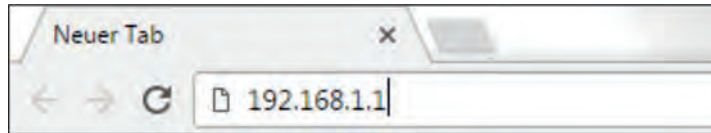
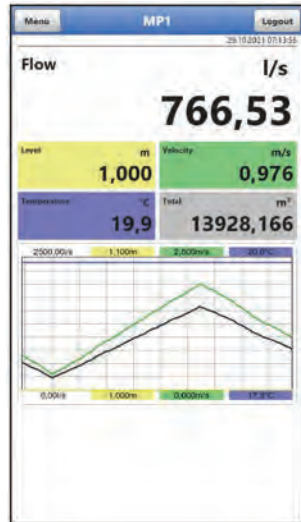

Fig. 31-23 Address field
Fig. 31-24 Indication of NFM display in the browser
- Enter the IP address "192.168.1.1" in the address field (Fig. 31-23) and open. After successful connection the display of the NivuFlow Mobile (Fig. 31-24) is shown.